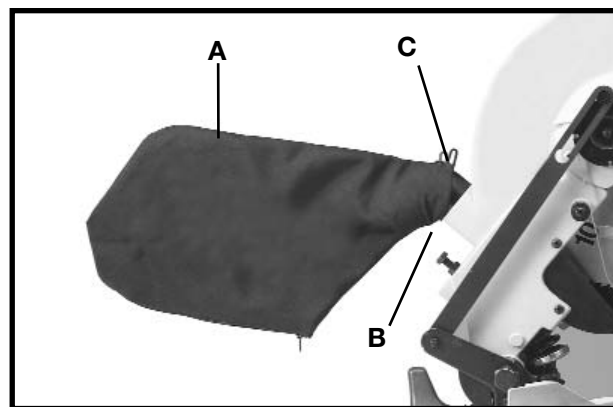

Fig. 6
1. Attach dust bag (A) Fig. 6 to the dust spout (B) making sure the wire ring (C) is engaged between the ridges in the spout.